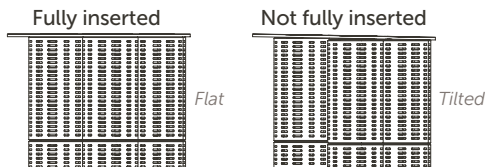

Figure 32.
2. The cartridge hold-down plate will be tilted if any cartridge is not fully inserted, causing wing nut not to be flush with the hold-down plate surface, Figure 32. In this case, return to Step 2. Cartridge Assembly and press the cartridge deeper until it is fully inserted.